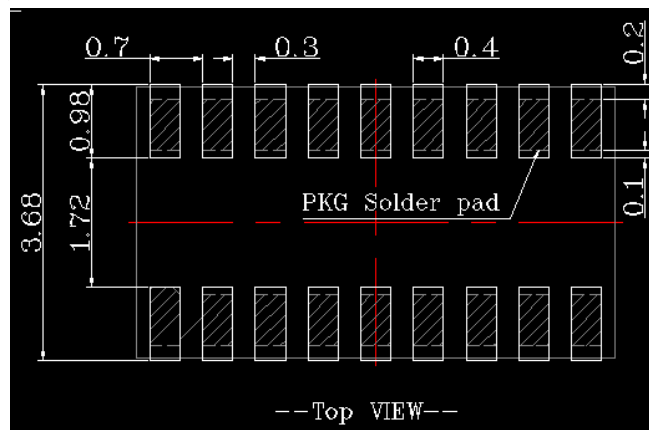

Figure 8. Recommended PCB Layout
2. Recommended dimension of pad is shown in Figure 8. The actual pad size design will need to consider components aside. (All dimension are mm)